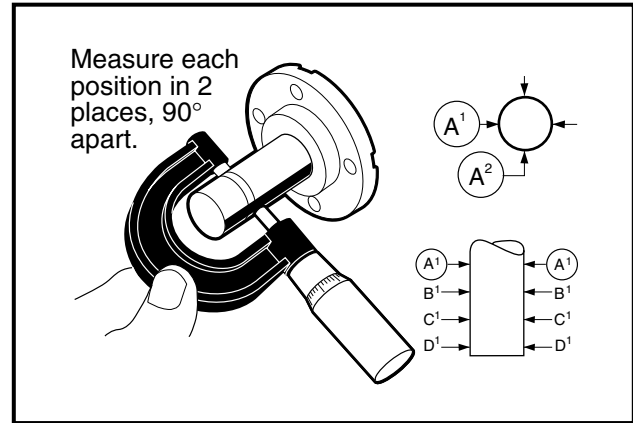

Figure 13-80 Measure O.D. of Counterbalance Guide Shaft
2. With an outside micrometer, measure the outside diameter of the guide shaft surface (**Figure 13-80, Page 13-39**).